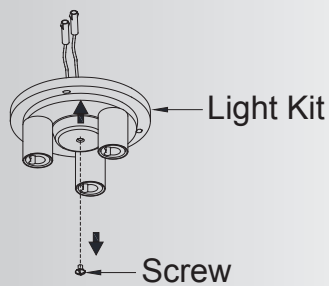

Fig. 21
Step 1. Remove the screw on the middle hole of light kit and save it for reuse on the step 5. (Fig. 21)